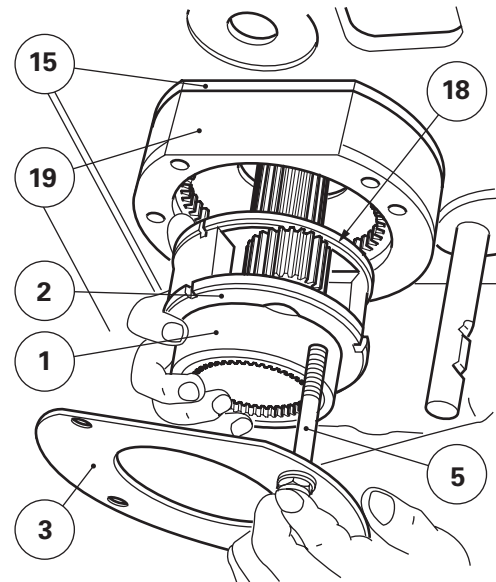

Fig. 3
14. Install the sun gears (9). Use miscible grease in oil to fit the needles (10).
15. Assemble the plates (13) (14).
16. Assemble the shafts (12), directing them as required for assembling the circlip (16).
17. Fit the circlip (16). Manually check the axial clearance and rotation of each pinion gear.
18. Position the stop plate (15) and the ring gear (19) on the housing (Fig. 3).
19. Position the friction washers (2) (18) coated with miscible grease on the planet carrier (4).
21. Position the closing plate (3). Tighten screws (5) to a torque of 34 - 52 Nm.